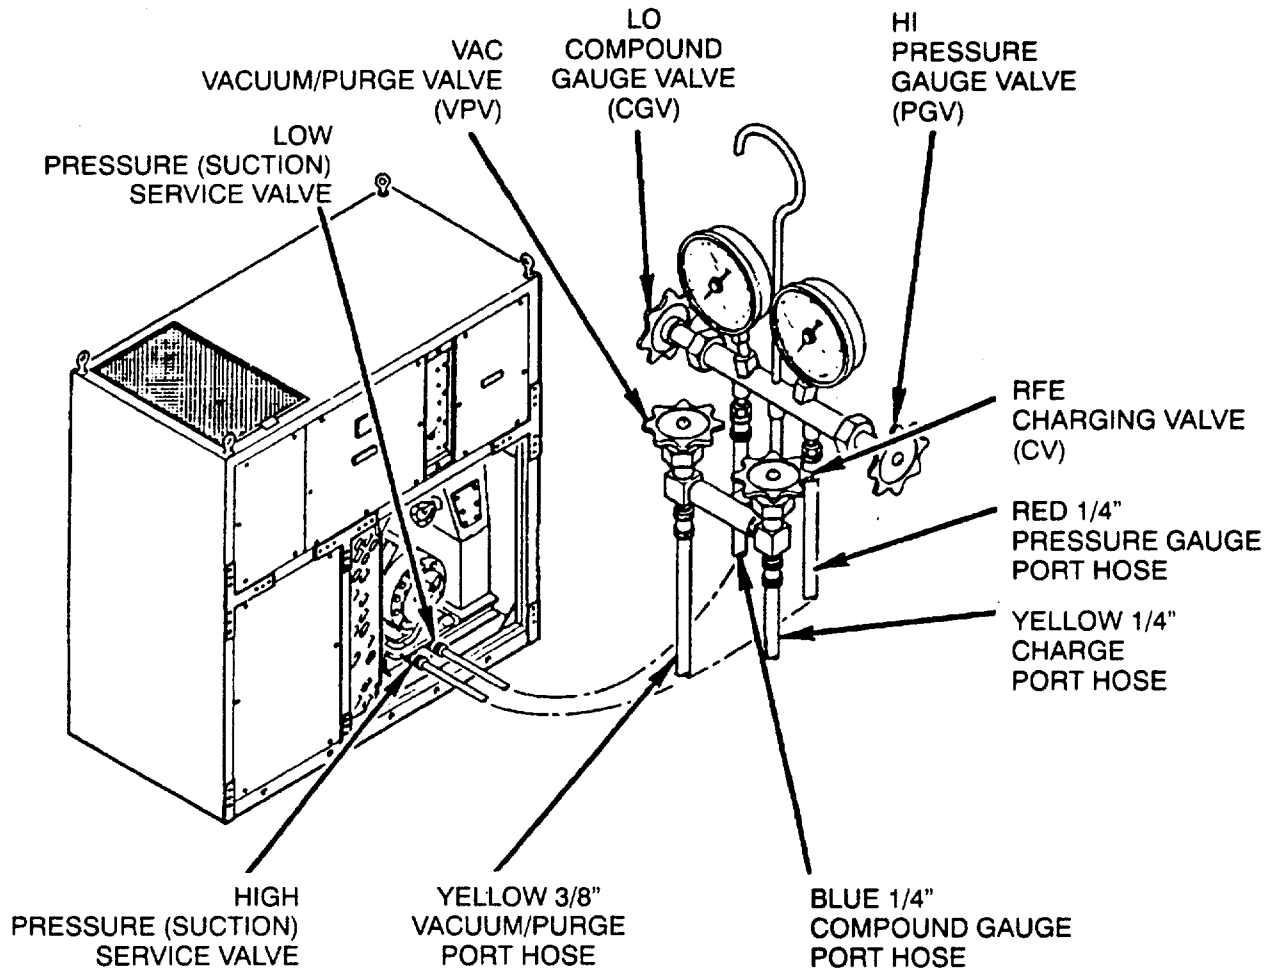

Figure 5-3. Service Manifold Installation
1. Remove protective caps (Figure 5-3) from high and low pressure service valve stems.